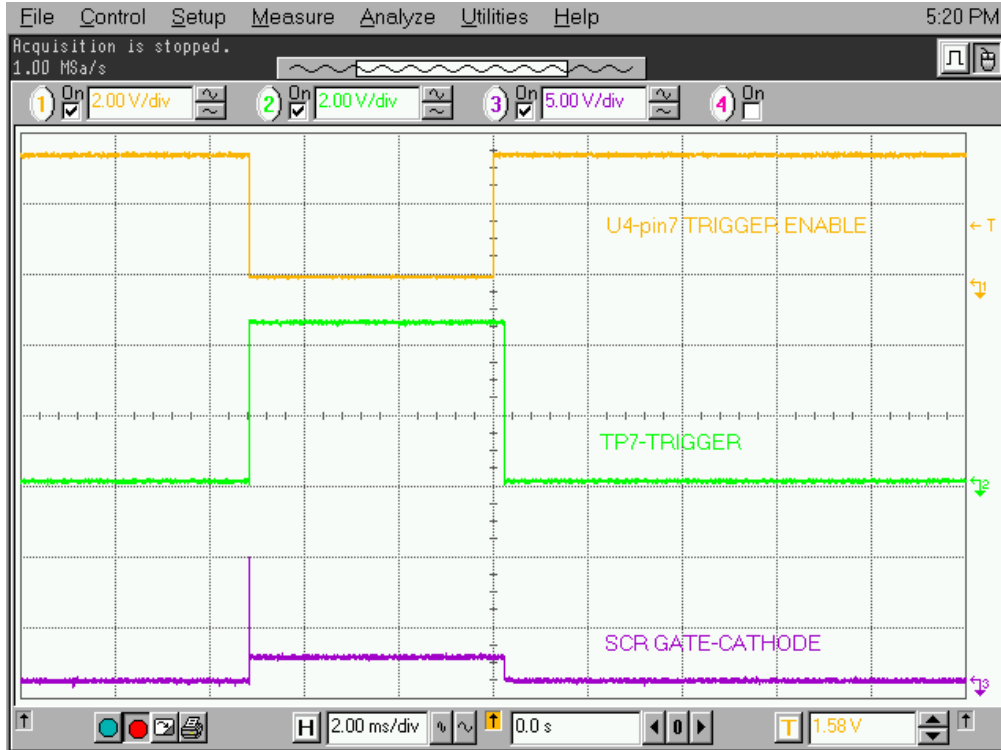
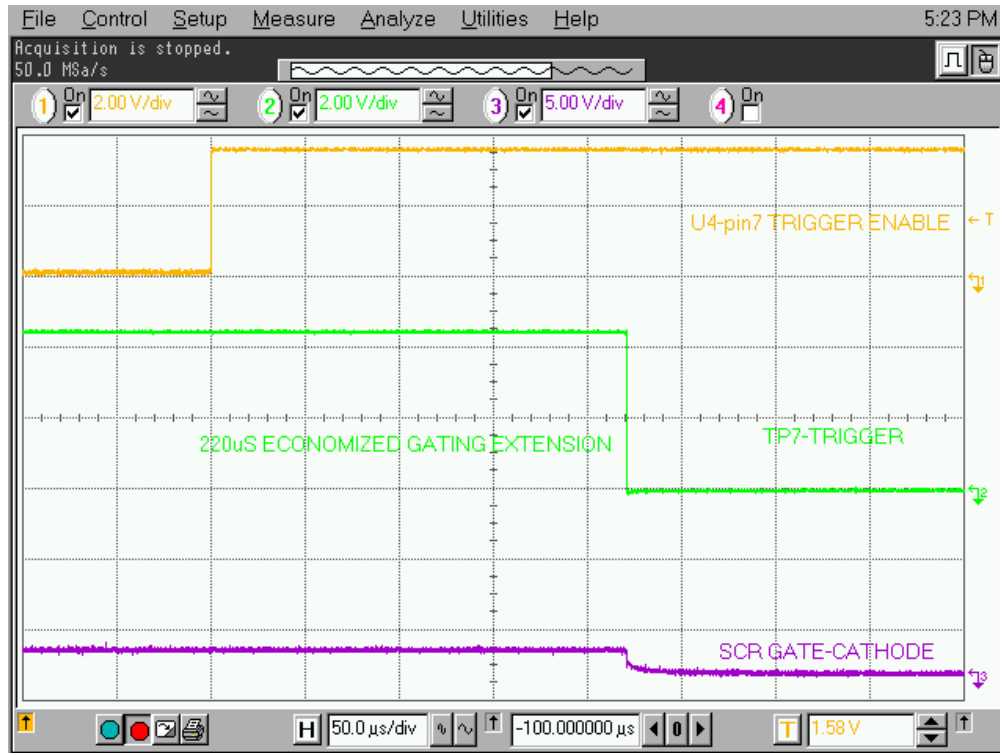

Figure 6.37 – V Sense Trigger to SCR gating pulse
Figure 6.38 – Expansion of V Sense Trigger to SCR gating pulse
22. Apply a 60 Hz, 33% duty cycle signal, at a 0 to +2V level, between the TB1-2 input and COM. Verify the signals in Figures 6.37 and 6.38. Note that in Figure 6.38 there should be a 220 μ S, +/-20 μ S time between the rising edge of the U4-pin7 pulse and the falling edge of the TP7 signal.